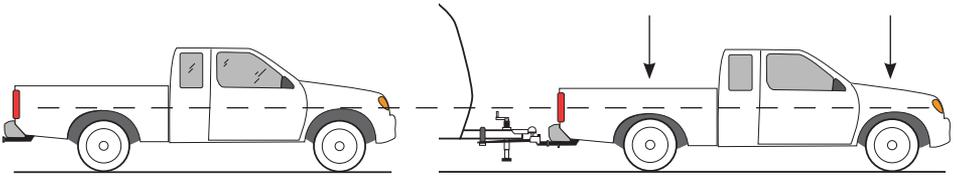

Figure 17 - good weight distribution
2. The REAR of the tow vehicle is slightly lower than its unloaded height, but noticeably higher than it is when loaded on the ball mount only, without weight distribution engaged. (Line C is between lines A and B, but likely closer to A. Line C is NEVER HIGHER than line A). See Figure 17.